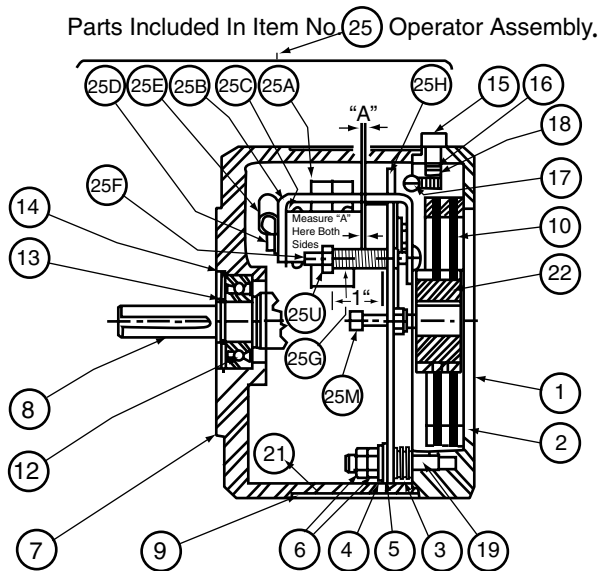

Figure 3.
Note: The brakes are designed for horizontal mounting. Modification is required for vertical mounting. Brakes suitable for vertical mounting will have a suffix letter “U” (vertical up) or “D” (vertical down) at the very end of the catalog number. Numbers in parentheses refer to parts illustrated in Figures 3 and 5.
Refer to Figure 3
1. To adjust, remove cover (9) to expose adjusting screws (25M) and magnet air gap "A".
2. Measure air gap "A" using 3/8" to 1/2" wide feeler gauge as shown in Figure 3.
Refer to Figures 3 and 5.
Refer to Figure 3.